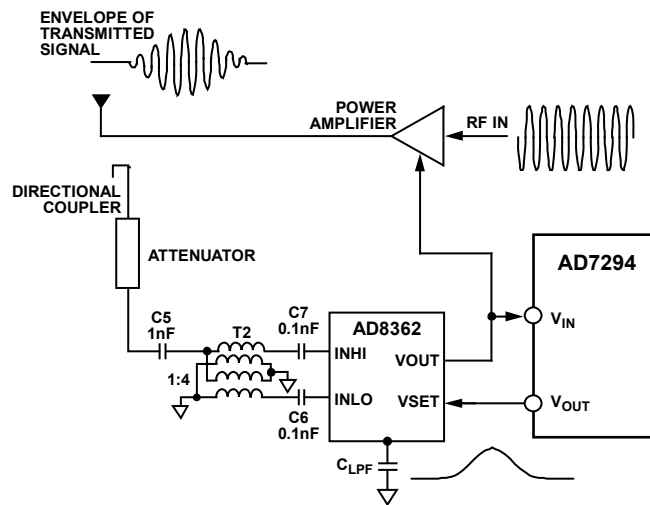

Figure 60. Setpoint Controller Operation
In gain control mode, a setpoint voltage, proportional in dB to the desired output power, is applied to a power detector such as the AD8362. A sample of the output power from the power amplifier (PA), through a directional coupler and attenuator (or by other means), is fed to the input of the AD8362. The V_{OUT} is connected to the gain control terminal of the PA, see Figure 60. Based on the defined relationship between V_{OUT} and the RF input signal, the AD8362 adjusts the voltage on V_{OUT} (V_{OUT} is now an error amplifier output) until the level at the RF input corresponds to the applied VSET. The AD7294 completes a